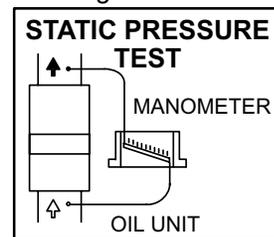

FIGURE 25
1. Measure tap locations as shown in figure 25.